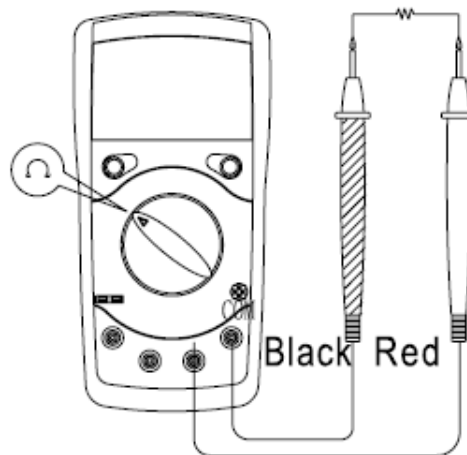

figure 5
E. MEASURING RESISTANCE (SEE FIGURE 5)